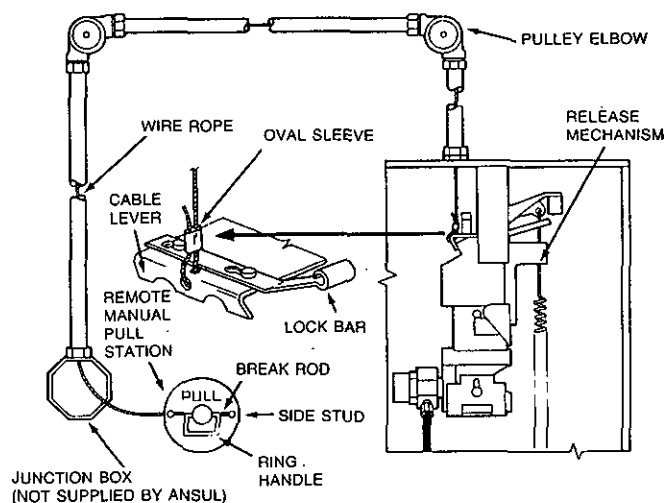

FIGURE 55
5. Install and secure 1/2 in. conduit, pulley tee (if required), and pulley elbows from each pull station to regulated release assembly as necessary. See Figure 55 or 56.
8. Slide oval crimp sleeve onto wire rope. Loop wire rope through cable lever guide holes and back through the oval crimp sleeve. See Figure 55.
9. Pull slack out of each wire rope and crimp sleeve. (Use the National Telephone Supply Company Nicopress Sleeve Tool Stock No. 51-C-887 or equal to properly crimp stop sleeve.) See Figure 55.